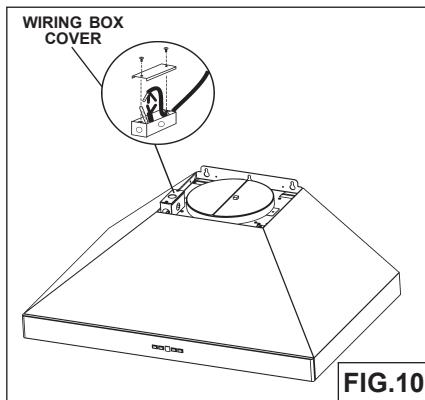

FIG.10
1. Remove the wiring box cover. Remove a knockout from the wiring box (Fig.10).